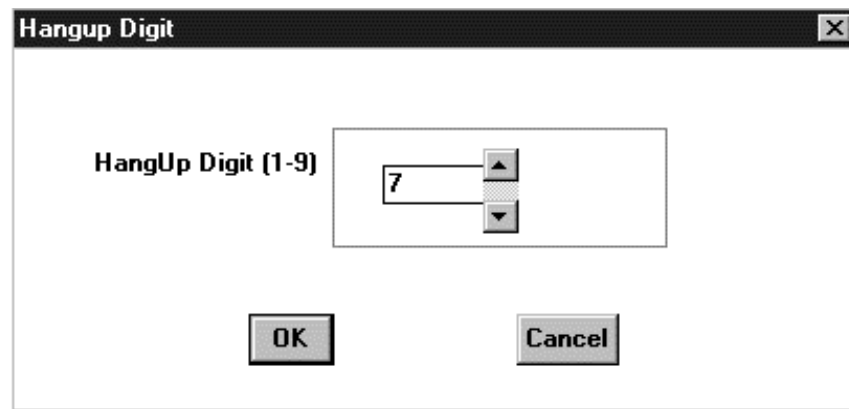

Figure 5.6.2.13
- a) After selecting the **HangUp Digit** per section 5.6.2.1, the following *HangUp Digit* window (Figure 5.6.2.13) will appear: